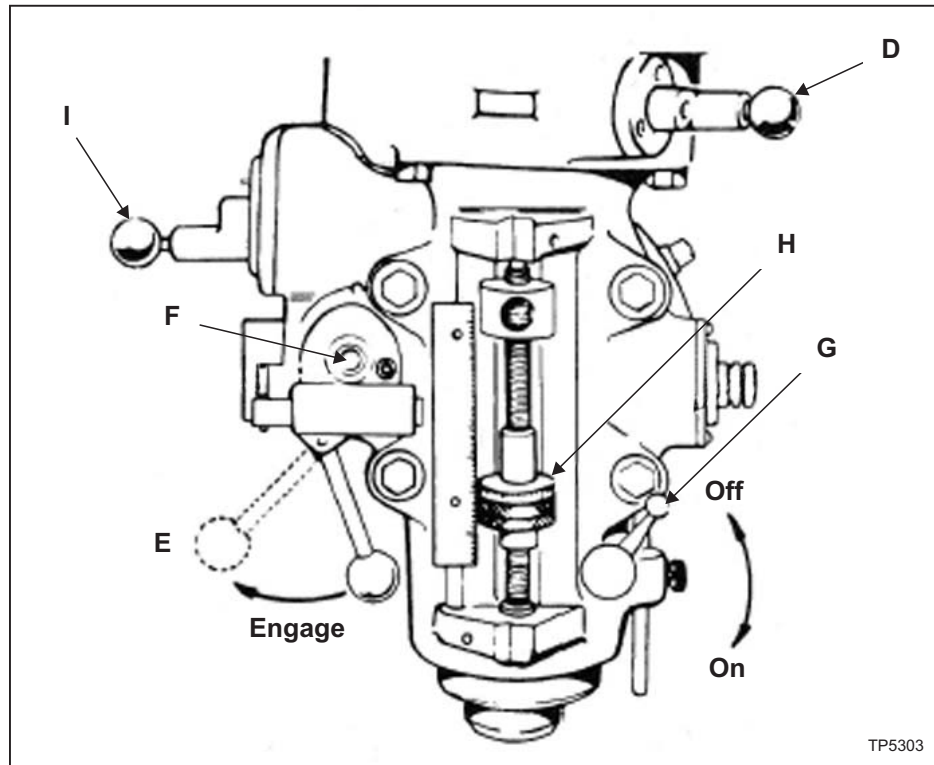

Figure 2.19 - Quill Feed
1. Disengage Auto Quill Feed "D", Figure 2.19.